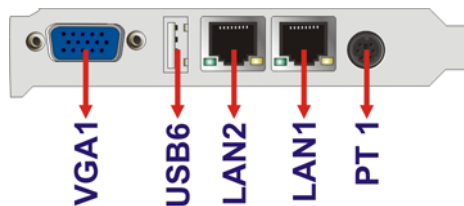

Figure 3-21: PIC0e-PV-D4251/N4551/D5251 External Peripheral Interface Connector
Figure 3-21 shows the PIC0e-PV-D4251/N4551/D5251 external peripheral interface connector (EPIC) panel. The PIC0e-PV-D4251/N4551/D5251 EPIC panel consists of the following:
CN Location:	See Figure 3-21
CN Location: See Figure 3-21
- CN Location:** See Figure 3-21